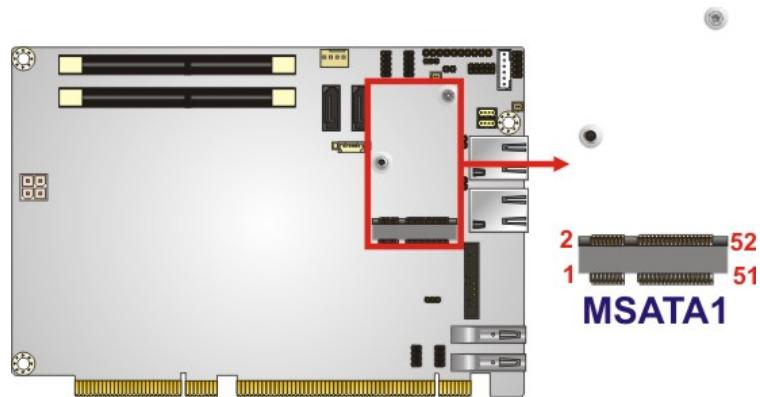

Figure 3-6: PCIe Mini Slot Location
Step 2: Locate the PCIe Mini slot on the motherboard (Figure 3-6).